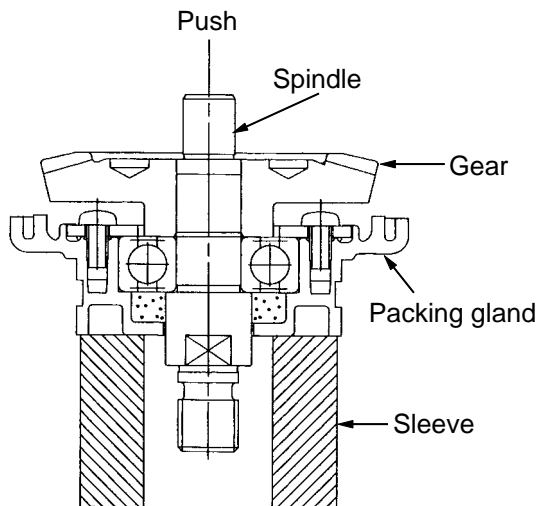

Fig. 12
Place the assembly on a sleeve that matches the dimension of the Packing Gland [27] <27> (27) and push down on the top of the Spindle [25] <25> (25) with a hand press to remove the Gear [20] <20> (20) as shown in Fig. 12.